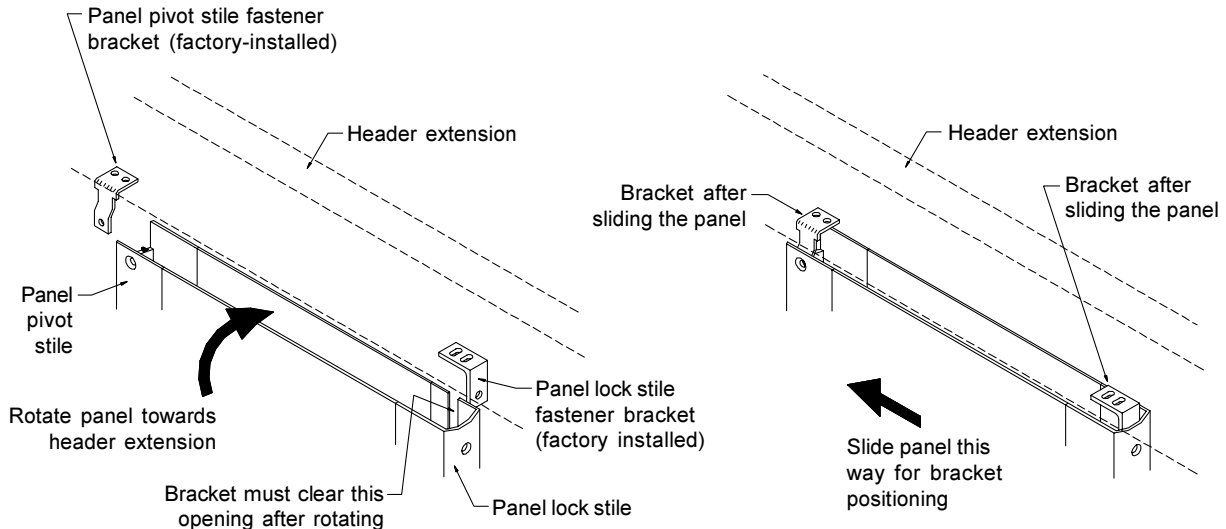

Figure 17. Panel Positioning and Attachment
2. Remove the fixed panel from its carton. Lift panel and place bottom rail (factory-prepped stile and rail) onto bottom slide guide with four (4) drilled holes at bottom of panel facing interior side of opening. Swing upright, clearing the lock stile fastener bracket with the slot machined in the lock stile of the panel (**Figure 17**). Slide panel towards jamb tube and install 1/4-20 flat head screws from screw bag.